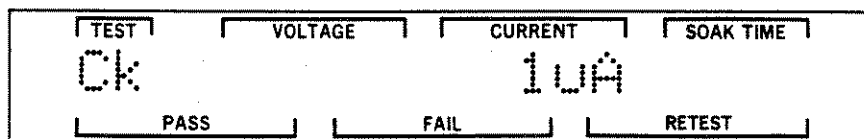

Figure 7-62. Check Leakage Current Screen
STEP 15. Press the RIGHT pushbutton twice to allow the Check Leakage Current to be set. Refer to Figure 7-62 for an illustration of this screen.